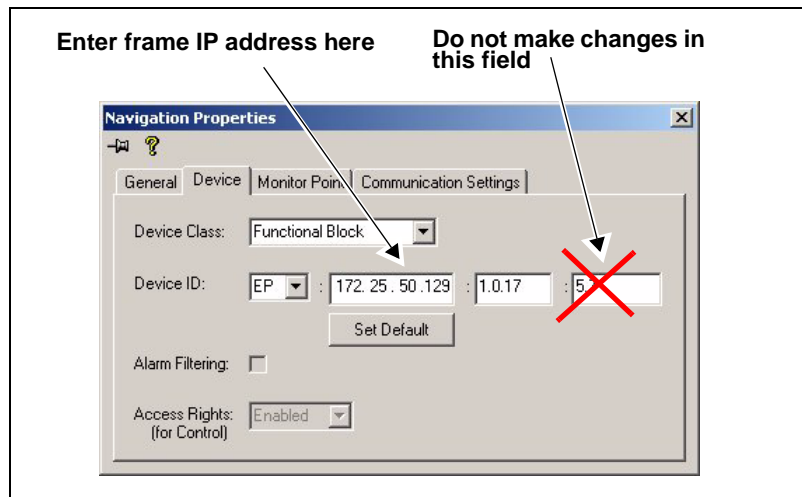

Figure 2-24. Navigation Properties Box
On the **Device** tab of the **Navigation Properties** box, enter the IP address of the frame that holds the module. (See Figure 2-24.)
4. On the **Device** tab of the **Navigation Properties** box, enter the IP address of the frame that holds the module. (See Figure 2-24.)